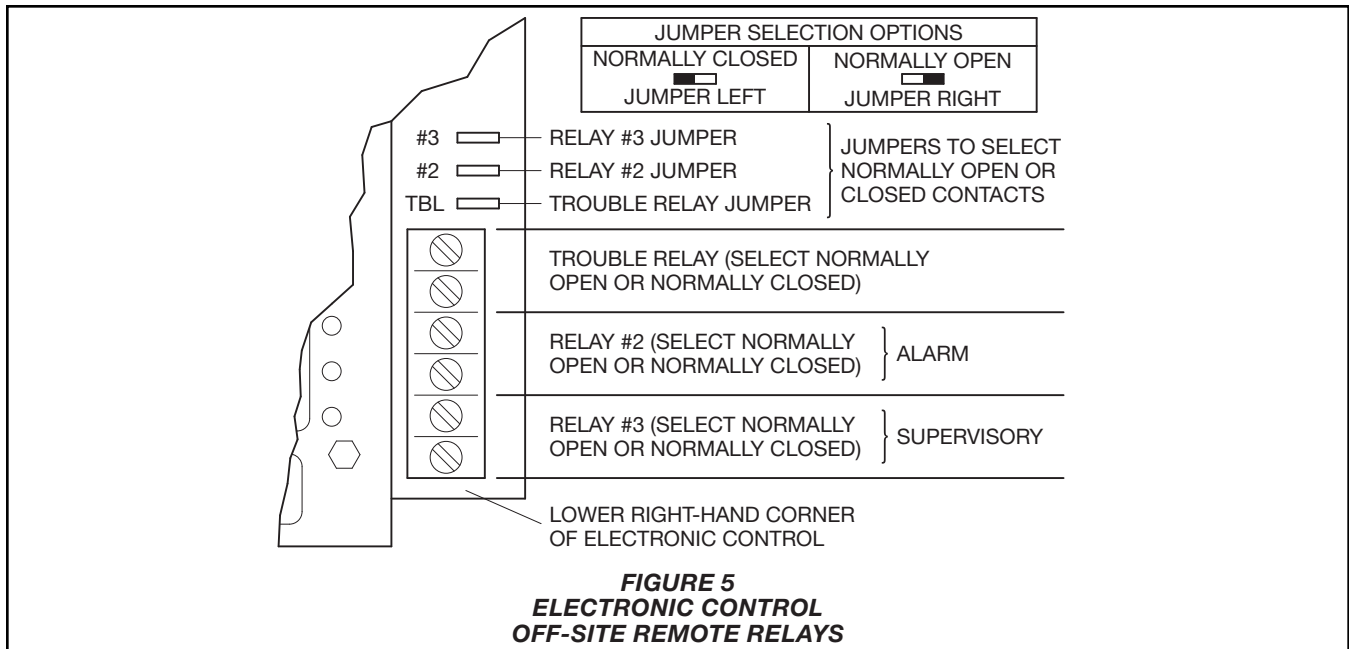

FIGURE 5
- All relays are single pole, double throw. Refer to Figure 5 to set selectable jumpers for normally open or normally closed jumpers.